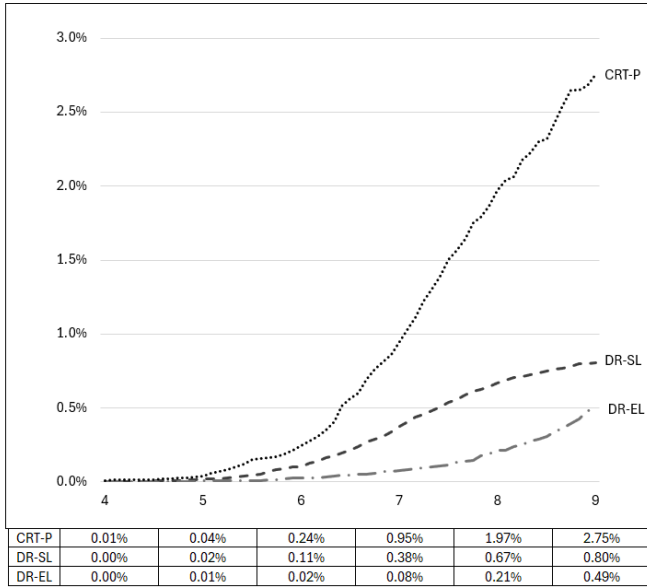

Figure 1 Occurrence rates for high battery impedance induced Safety Mode in the December 2024 advisory population
The worst case reported patient harm has been loss of pacing with serious injury or life-threatening outcome. There have been two (2) deaths in pacemaker dependent patients after initiating Safety Mode in an ambulatory setting and no additional deaths have been reported. Details about the ACCOLADE subpopulations and lifetime occurrence rate for each device type are reported in Table 2. Occurrence rates for various device types are reported in Figures 1 and 2.
The ACCOLADE family of pacemakers includes a standard life (SL) battery for single chamber (SR) and dual chamber (DR) pacemakers and a larger, extended life (EL) battery for DR pacemakers and cardiac resynchronization therapy pacemakers (CRT-Ps). Because of disparate batteries (e.g., SL vs. EL) and therapies provided (e.g., SR/DR pacemakers vs. CRT-Ps), the occurrence rates vary (Figures 1 and 2). However, the susceptibility for a device to enter Safety Mode due to high battery impedance occurs when the device reaches approximately four (4) years or less of remaining battery longevity. A retrospective study of 121 US Department of Veterans Affairs (VA) Centers found that, of ACCOLADE and INGENIO devices initiating Safety Mode due to high battery impedance, 100% did so with 4 years or less time remaining and 92% with 2 years or less time remaining.⁵